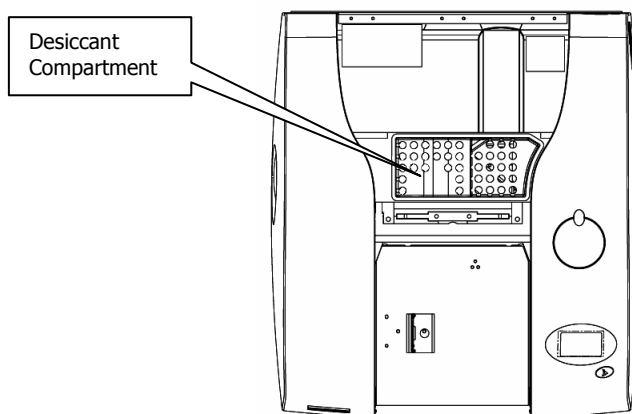

Figure 21 Desiccant removed
4. Open the cover and remove all the exhausted desiccant packs (Figure 21), noting how they are installed.